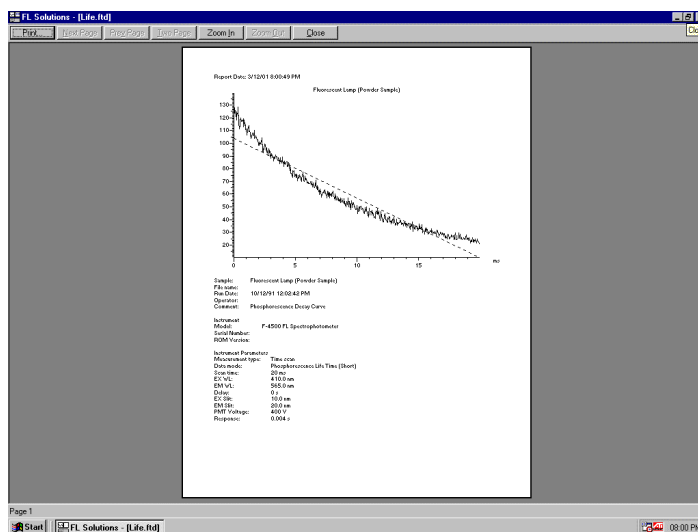

Fig. 3-14
- (2) Select the Report command in the Data menu. Or click the  (report) button on the toolbar. The Print Preview window will appear as shown in Fig. 3-14. Then, click **Print**. Select the items to be printed at the Report tab under Properties on the Edit menu.